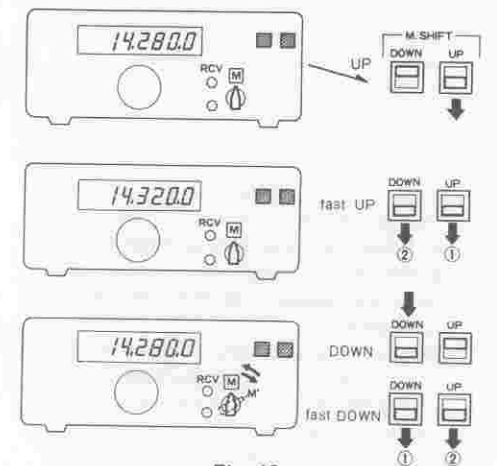

Fig. 10
**Fast Forward Operation** (See Fig. 10)